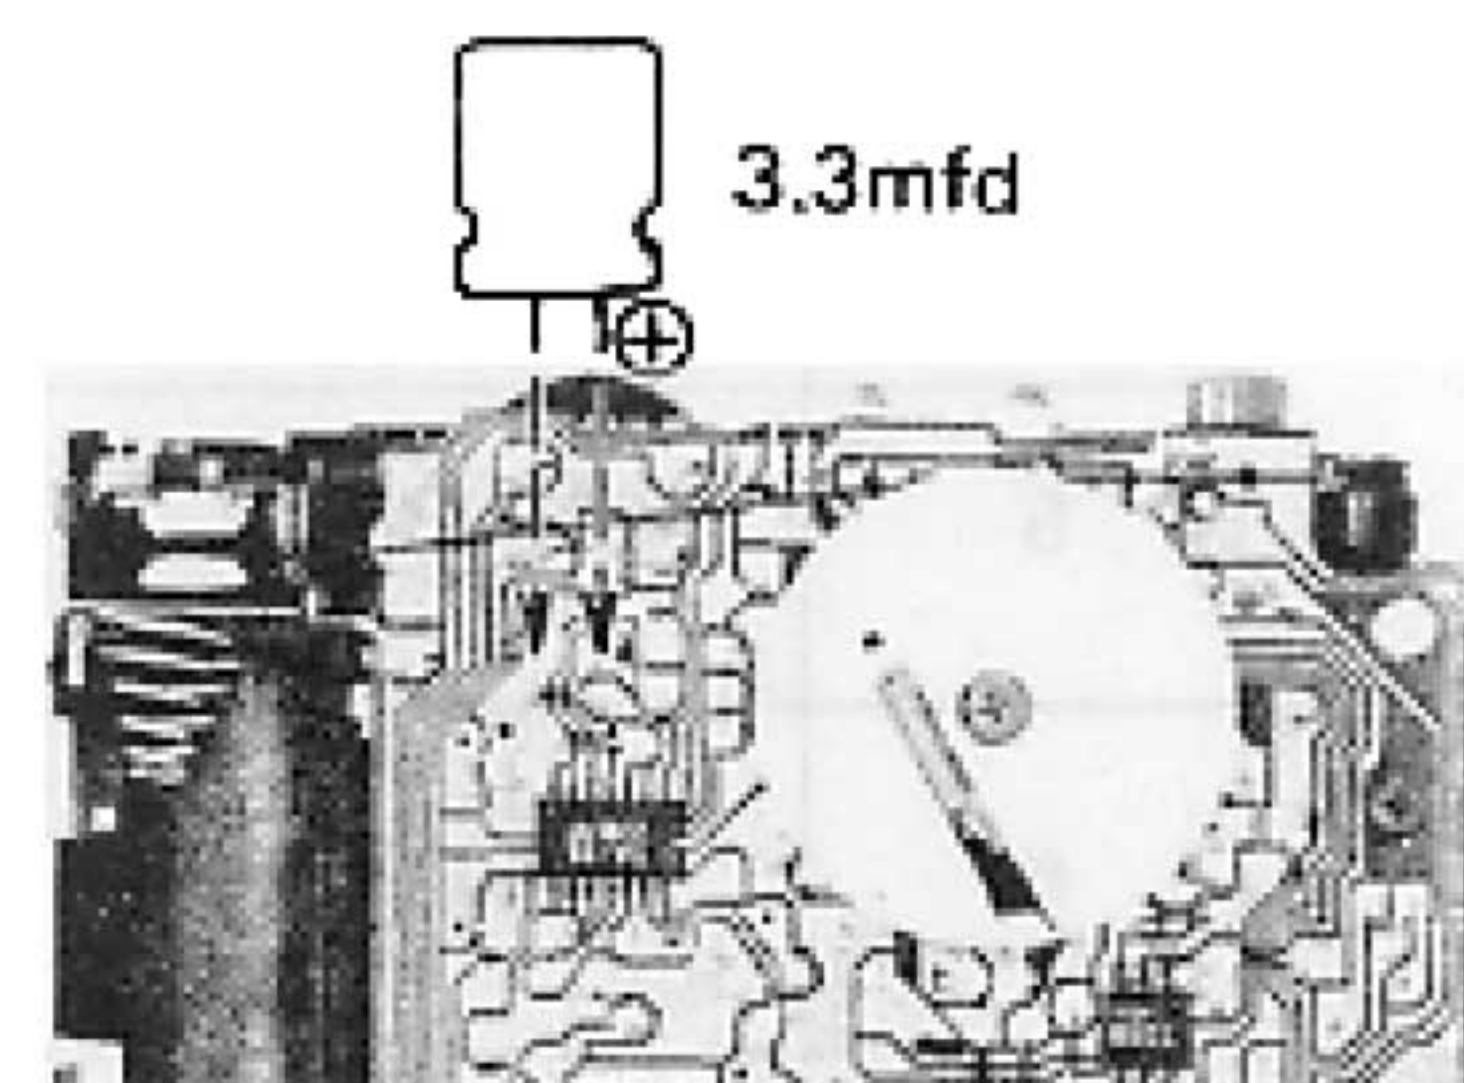

Figure 8
2. Turn on the AM signal generator, sweep generator, and the VTVM allowing a fifteen-minute warm-up period. (Solder 3.3mfd capacitor across the point and GND shown in Figure 8.)